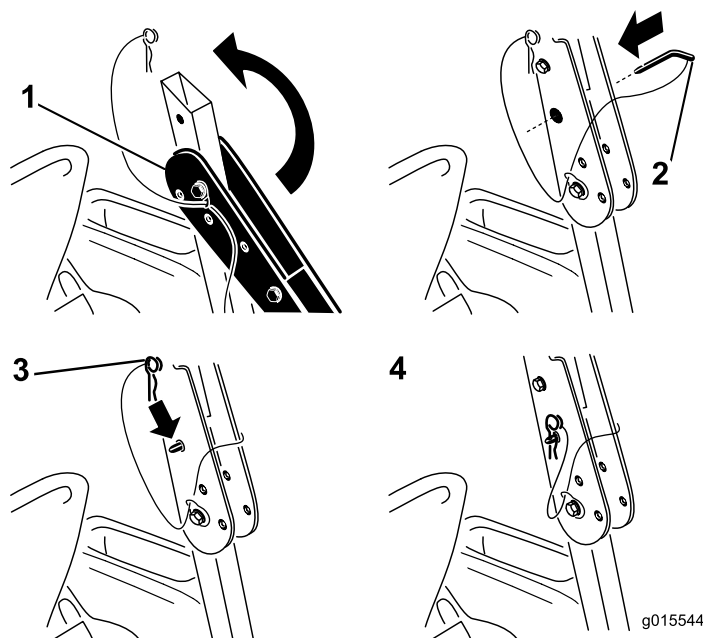

Figure 8
4. Raise the rollbar into the upright position and lock it in place with both pivot pins as shown in Figure 8.
- Lock the rollbar in the upright position with the pivot pins. Use the hairpins at the end of each lanyard to secure the pivot pins (Figure 8).